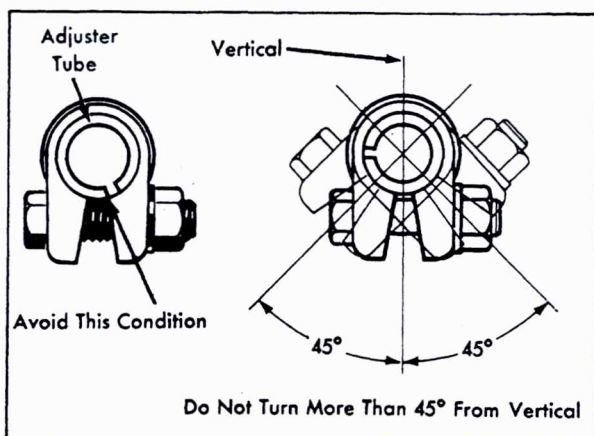

Fig. 3-7 Tie Rod Clamp Position
**NOTE:** Be sure that open sides of clamps are pointed downward within 45° of vertical to prevent possible interference with the frame on maximum compression. Both the tie rod ends and joint studs should be in a centralized position before tightening clamps. Check relationship between jaws of clamp and slot in adjuster tube. Do not allow corner of one to catch on a corner of the other, Fig. 3-7. Turn clamp until corners clear each other, but do not rotate it more than 45° from straight down.